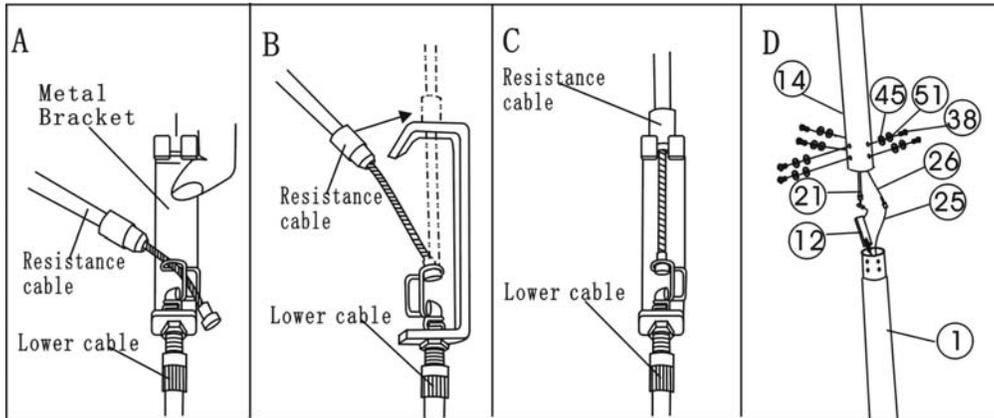

Figure 3
- a. On the lower position of the front upright frame (14), there is the tension control (21). Connect the joint of the tension control (21) with the tension control wire (12) firmly. < Note: at first, please turn the tension control's knob to the bottom of the "-" direction (in this situation, the joint of the tension control will be extended to the longest)>. Then put the end of resistance cable into the spring hook of Tension control wire (12) as shown on drawing A of figure 3.
Pull the resistance cable up and force it into the gap of metal bracket of Tension control wire (12) as shown on drawing B of figure3
Connect the resistance cable with the Tension control wire (12) completed as shown on drawing C of figure 3. If the upper side of the tension control wire cannot fix perfectly in the gap of metal bracket, please adjust the nut which below the bracket to the suitable position.
- b. Connect the computer wire (26) to the Sensor wire (25) coming out from mainframe (1) as show on drawing **D** of figure3.
- c. Insert the Front upright frame (14) to the main frame (1) and secure it with six pieces of M8 x 20 Bolts (38), Φ 8 Spring washers (51), and Φ 8 Arc washers (45) as shown on drawing **D** of figure 3.